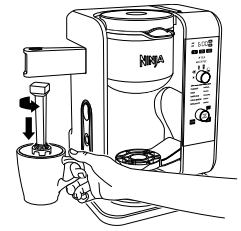

Fig. 21
- 5 You can easily remove the frother whisk by twisting it clockwise. To avoid spills, keep your cup below the whisk and carry it to your sink or dishwasher for cleaning (Fig. 21).